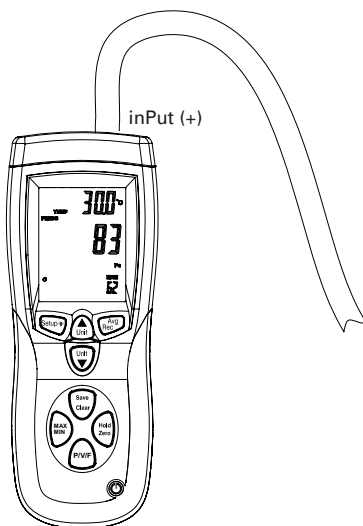

Fig. 13
3. Connect a single hose to the "Input (+)" port, leaving the "Ref (-)" port unconnected (Fig. 13).